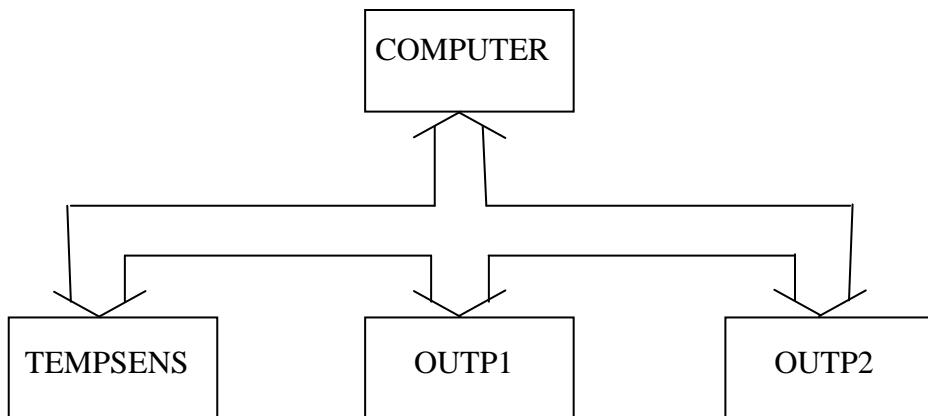

Figure 3(b)
- (b) A computer-based instrumentation and measurement system based on GPIB or IEEE 488 databus has been proposed. Figure 3(b) shows the arrangement. The system comprises of a temperature sensor (TEMPSENS), output devices (OUTP1 and OUTP2) and a computer.
Referring to Figure 3(b), TEMPSENS is digital sensor with the ability to measure and transmit data at rate of more than 4 Mb/sec. Meanwhile OUTP1 and OUTP2 are both printers capable of printing data at consistent speeds of 2 Mb/sec and 3 Mb/sec respectively. Draw the handshake timing (DAV, NRFID and NDAC) diagram showing clearly how data can be transferred from TEMPSENS to OUTP1 and OUTP2. From this diagram, determine which instrument controls the overall speed of data transmission. State your reason.